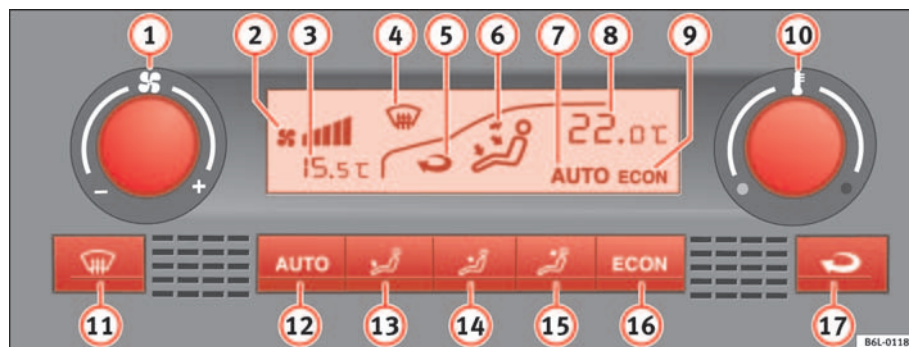

Fig. 88 On the instrument panel: Climatronic controls
- Turn the temperature selector ⇒ fig. 88 ⑩ to set the desired temperature.
- ① Blower speed control and ON / OFF system.
- ② Blower level indicator
- ③ Outside temperature display
- ④ Defrost w/indscreen display
- ⑤ Air recirculation display:
- ⑥ Display for air flow direction
- ⑦ Display **AUTO** (automatic operation)
- ⑧ Interior temperature selected display
- ⑨ Display **ECON** (air conditioning off)
- Press the button . The display is visible ⇒ page 118, fig. 88 .
- Press one of the buttons ⇒ page 118, fig. 88  to , or turn the blower control . The display is switched off .
- Press the button  to switch air recirculation mode on or off. This is ON if the symbol  ⇒ page 118, fig. 88  is displayed on the screen.